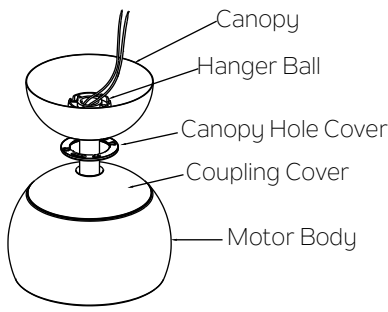

Fig. 8
Step 4. Slip the coupling cover, canopy hole cover and canopy onto the downrod. Carefully reinstall the hanger ball onto the downrod . Make sure the cross pin is in the correct position and the set screws are tight and the wires are not twisted . (Fig. 8)